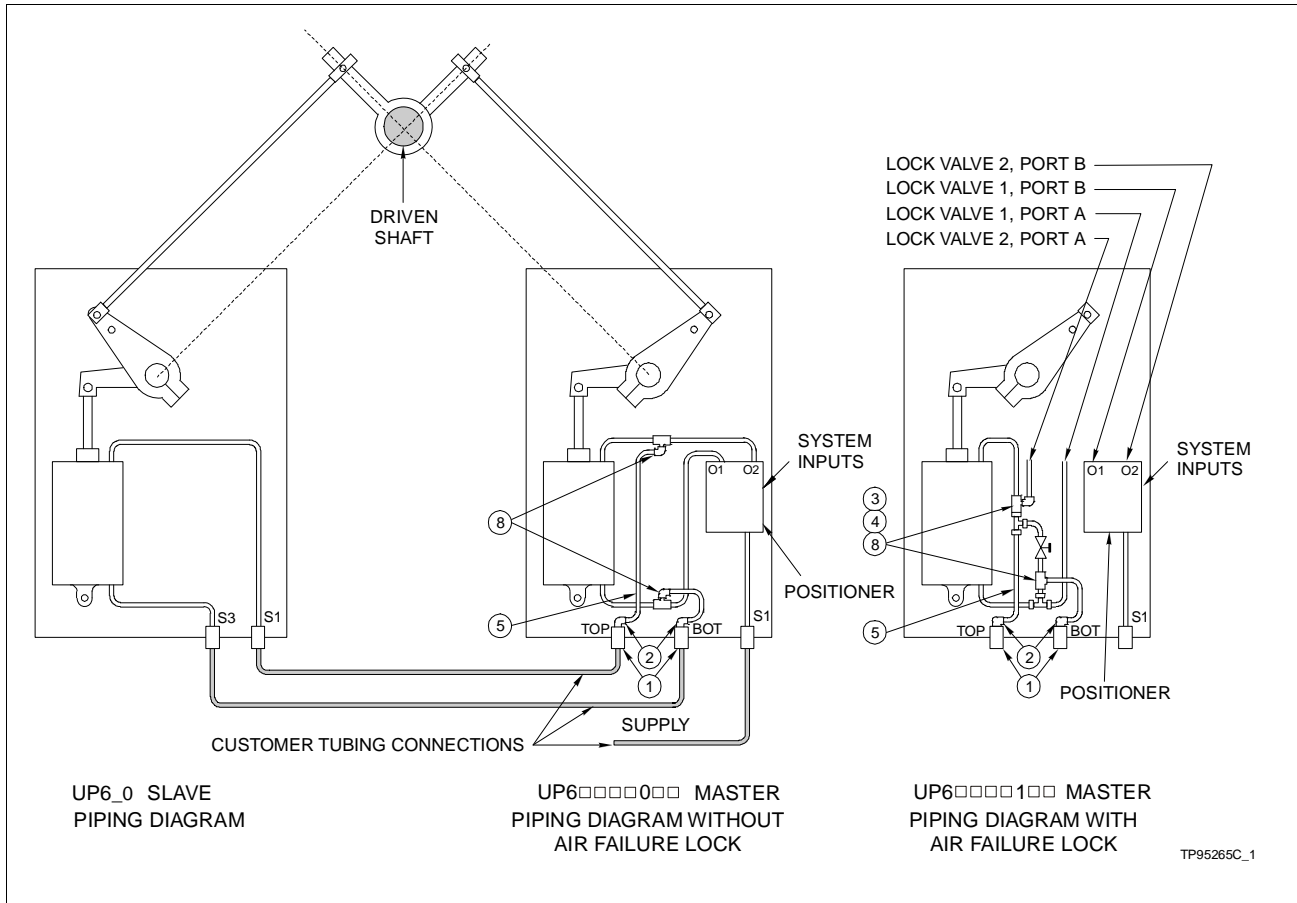

Figure 3-11. Master/Slave Tubing Connections
1. Refer to Figure 3-11 and Table 3-3.